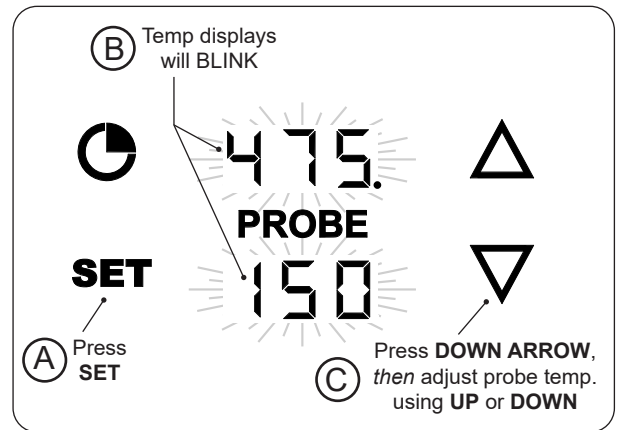

Fig. 31-1 Set probe temperature
1. With the thermometer/thermostat **on** and the meat probe plugged in, press the **SET** button once. The grilling and probe displays will blink. (While blinking, either area can be selected to enter their settings.) See Fig. 31-1, A and B.
2. Press the **DOWN ARROW** to select the probe settings, then you may use the up or down arrows to set the desired temp (Fig. 31-1, C).